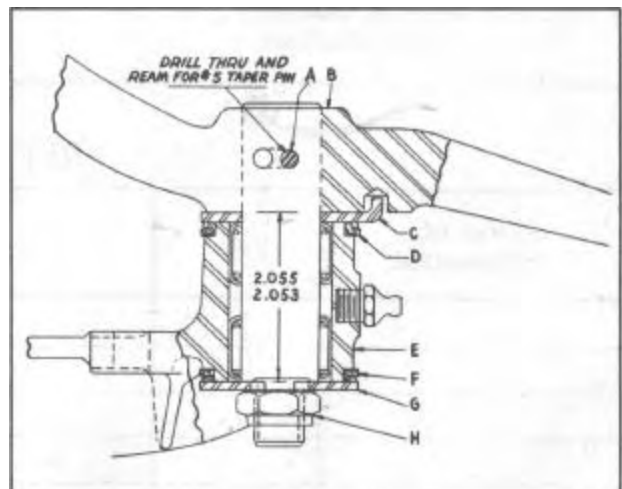

FIGURE 10
1. When installing new bearings in steering center arm bracket (E) space as shown in Figure 10, apply pressure on outer race, on end carrying manufacturers name and part number.
2. If necessary to replace the steering arm pivot, the new pivot should be pressed in place maintaining the 2.053" to 2.055" dimension as shown in Figure 10 before drilling the hole for the No. 5 taper pin (A).